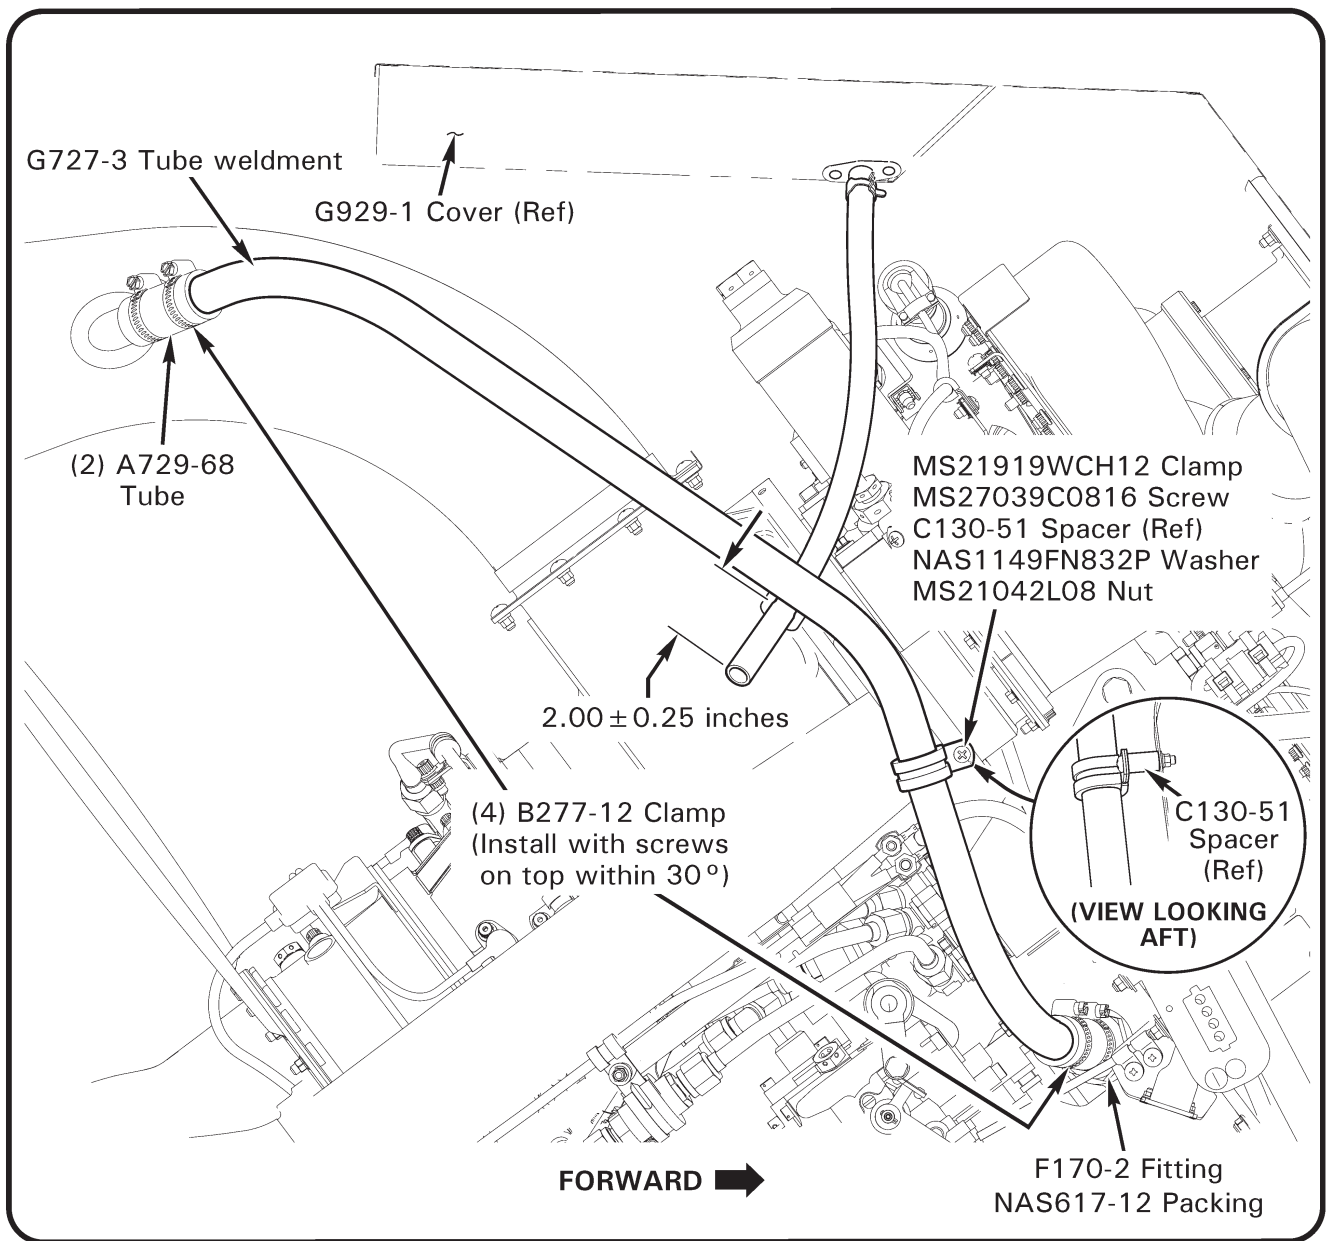

FIGURE 2 G727-3 Tube weldment installation
- c. Refer to Figure 2. Install (1) A729-68 tube to fitting and (1) tube to F169-9 exhaust weldment vent using (1) B277-12 clamp to secure each tube. Position B277-12 clamp screws to top within 30 degrees and tighten clamps.
- d. Slide (1) B277-12 clamp on each tube. Install G727-3 tube weldment, position clamps and tighten to secure. Verify security.
(same as Figure 2 except as shown)